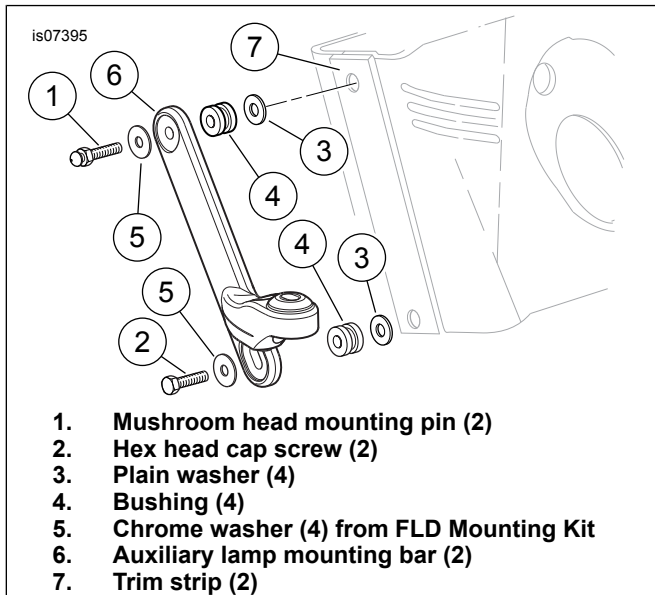

Figure 1. Auxiliary Lamp Bracket Installation (FLSTF)
- See Figure 1. Install a chrome FLD kit washer (5) onto the mushroom pin (1) threads, then insert the threads through the upper hole of the lamp mounting bar (6).